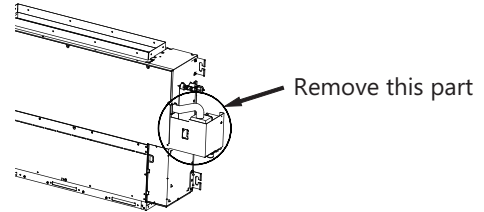

**Fig. AI-6: Disable The Water Level Sensor**
1. Take the cap off the drain connector B, connect the external pump to drain connector B using a hose and two hose clamps. Then connect the drainpipe to the connector D. (See Fig. AI-5) Plug the external pump to the "PUMP" pin and the water level sensor to the "CN5" to enable the pump. (See Fig. AI-6)
1. Open the cover of the E-Parts Box assembly, unplug the "PUMP" pin to disable the pump function, and short-connect the "CN5" plug to disable the water level sensor. (See Fig. AI-6)
2. Follow Step 1 (Fig. AI-6) steps to disable the pump. For the unit with an external pump, the whole pump assembly can be removed. Then, take the cap off the drain connector and connect the drainpipe to the drain connector. (See Fig. AI-7, Fig. AI-8, and Fig. AI-9)